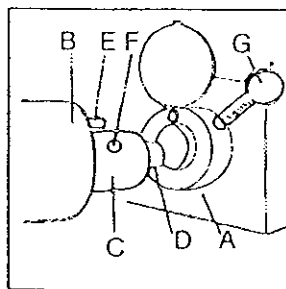

FIGURE 6
The range of attachments that can be operated from the attachment hub are listed below. When using an attachment, lubricate the drive stud (D) using a food quality grease or oil. To fix to the mixer refer to Figure 6. Release the thumbscrew (G) and slide the shaft of the attachment into the hub ensuring that the drive stud (D) engages in the socket within the hub. Rotate the attachment to line up the location peg (E) with its mating hole in the hub and push firmly home. Tighten thumbscrew to secure.